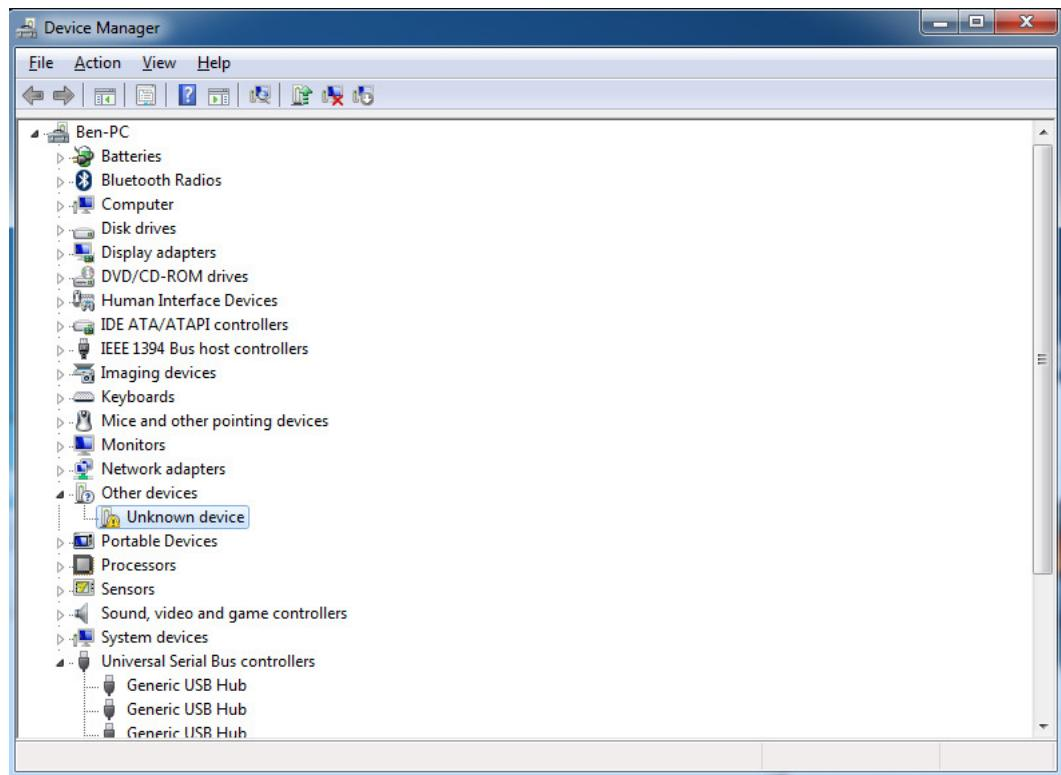

Figure 3.1: Windows device manager
7. Look for “Other devices” in the “Device Manager” list, expand and locate “Unknown device”. This may be similar to what is shown in Fig. 3.1. In case, you don’t see “Unknown device,” look for “Ports (COM & LPT)” and expand it to locate “USB Serial Device (COM2)”. This may be similar to what is shown in Fig. 3.2.